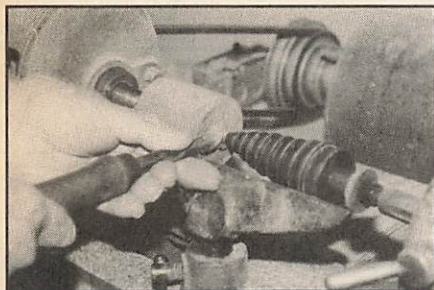
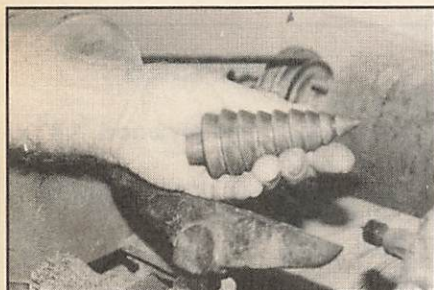

Fig. 7. Removing the waste.
Fig. 8. The completed ornament.
Step 7. Remove the waste (see Fig. 7), and secure a screw eye in place. The completed Large Tree Ornament is shown in Fig. 8.